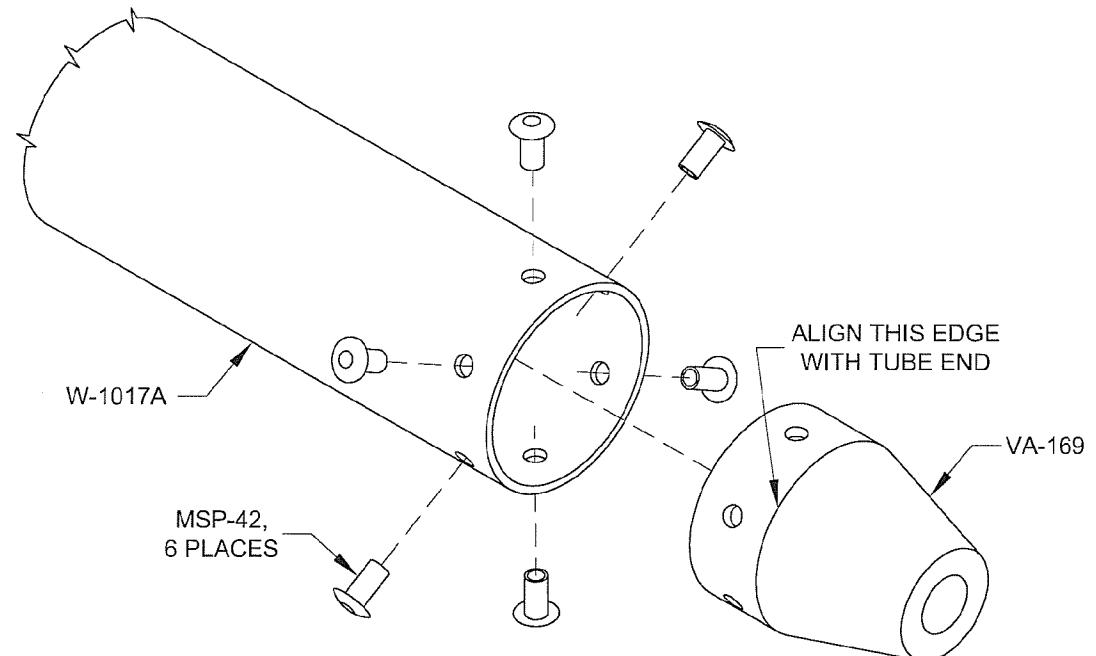

FIGURE 2:
Permanently install the threaded rod ends to the torque tube to bellcrank pushrods using the rivets called-out in Figure 2.
Step 3: Insert a VA-169 Threaded Rod End into the end of one of the W-1017A Torque Tube to Bellcrank Pushrods. Proper engagement of the threaded rod end in the torque tube to bellcrank pushrod is when the end of the tube coincides with the edge of the taper in the threaded rod end. See Figure 2.